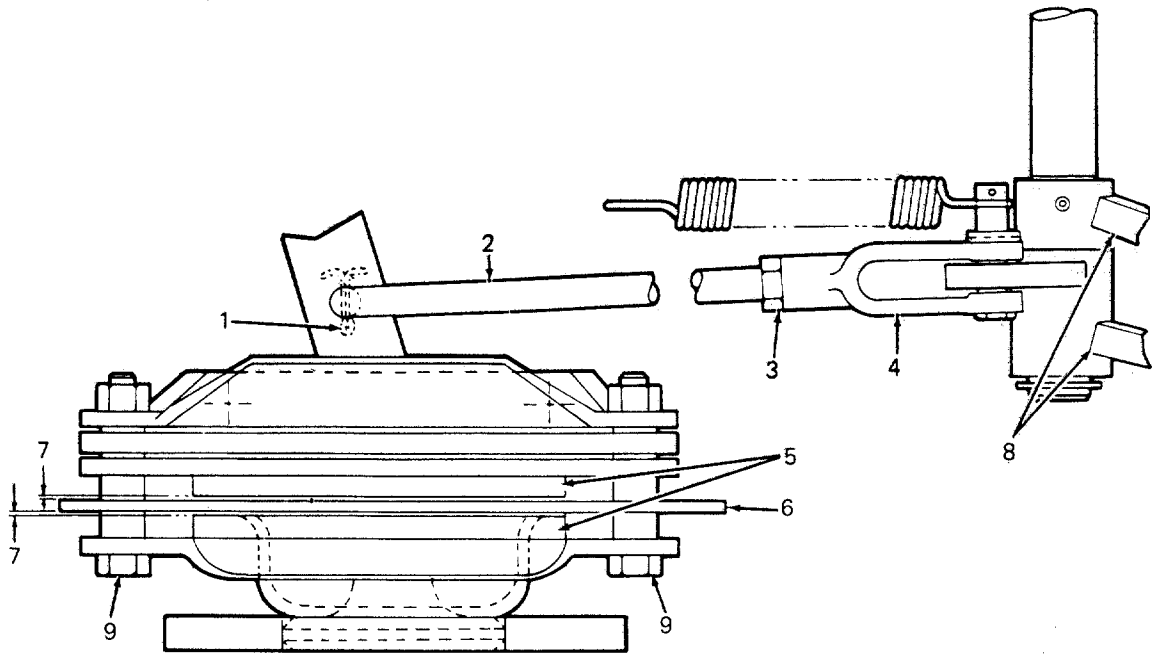

Figure 26. Right Side Shown
2. With the 1 inch thick wood block installed, the brake disc pads should be applying a light amount of friction against the brake disc rotor. If they are not, the brakes need adjustment (see Figure 26).
## Brake adjustment: (See Figure 26)